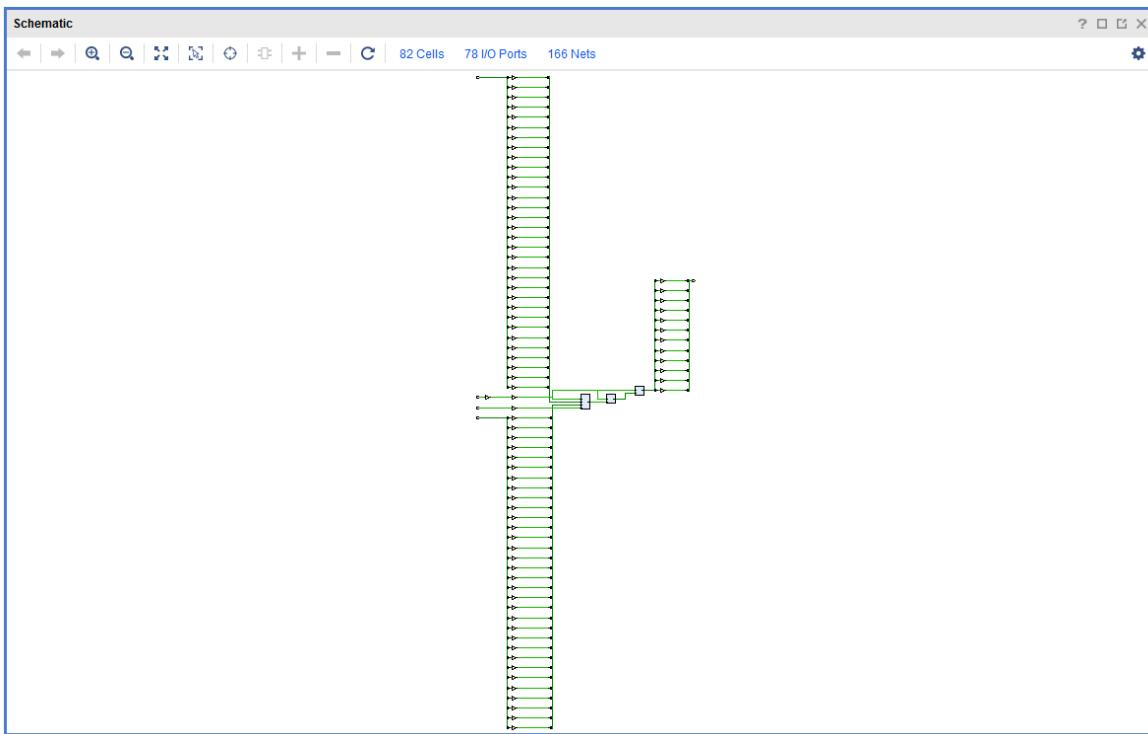

Figure 6.22: Sine-Top Schematic View
3. After few seconds, **Schematic** window will show up, and your design should look similar to the design shown on the Figure 6.22.